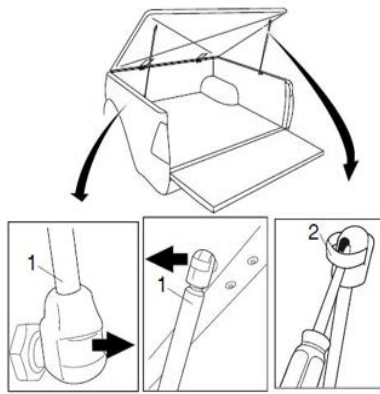

FIGURE 2
1. Open tonneau cover, Detach gas strut (1) by inserting a small screwdriver and adjusting the spring clip (2) on the gas strut (1). Refer to figure 2. NOTE: Do not remove the spring clip, only a small amount of levering is required to detach.